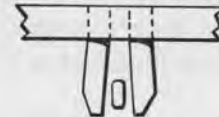

FIG. 5
2. Equally spaced and pins slightly open. (Fig. 5.)
Let us now assume that the overcoil is directly in the center of the two pins (Fig. 5), make sure of this condition by stopping the balance wheel with the jewel pin in the fork slot and observe the location of the overcoil with a double eyeglass. Now move the regulator so the pins will be located at *D*, look at the overcoil again and decide if it still remains in the same central position between the pins. If it does, it can be seen that when the regulator pins are closed up to the spring that it will be possible to move the regulator from "slow" to "fast," carrying the pins from *F* to *D* without disturbing the location of the overcoil.